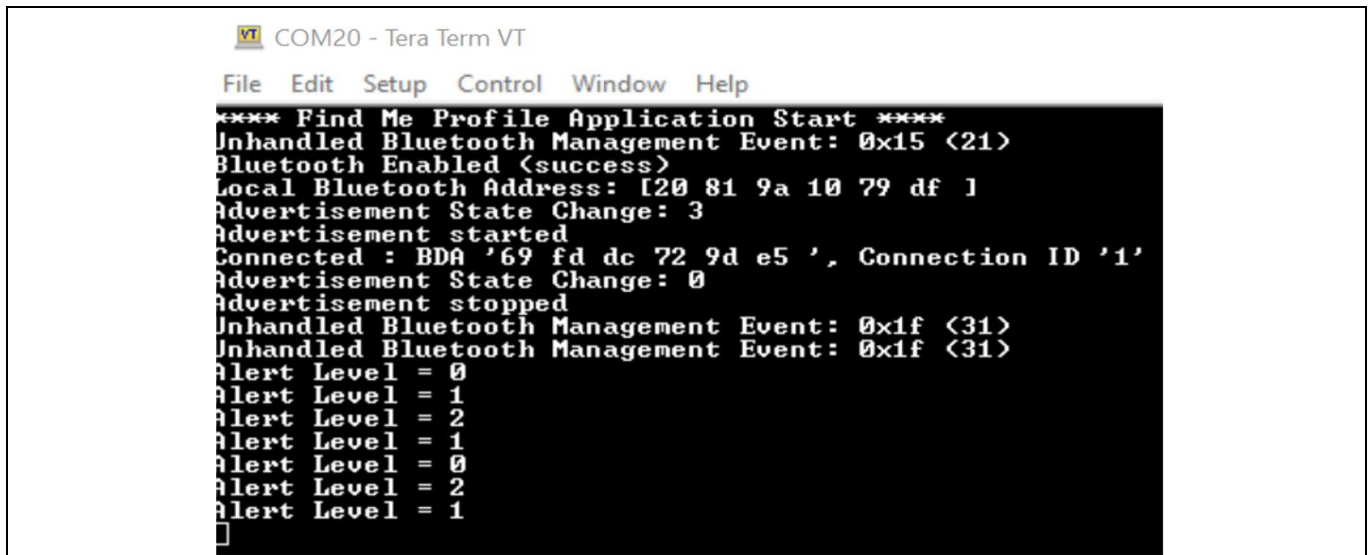

Figure 36 Log messages on WICED PUART serial port
- Use the PUART serial port to view the Bluetooth® stack and application trace messages in the terminal window as shown in Figure 36.